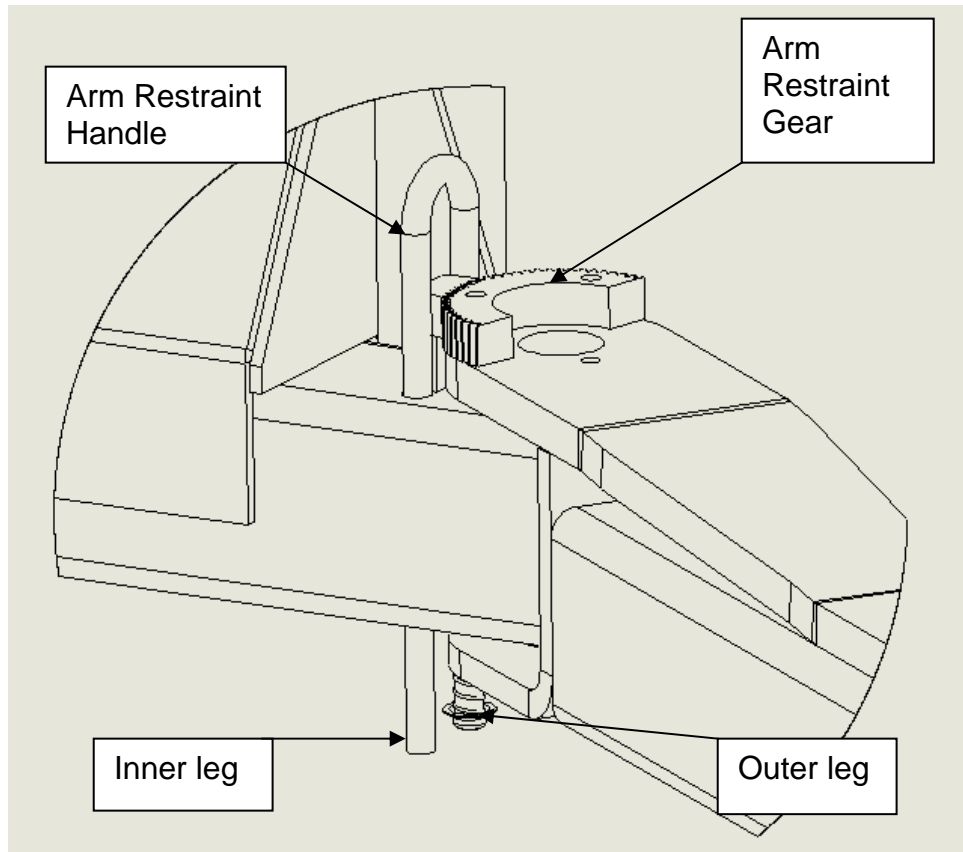

Figure 17 – Arm Restraint Installation
- Refer to **Figure 17 – Arm Restraint Installation**